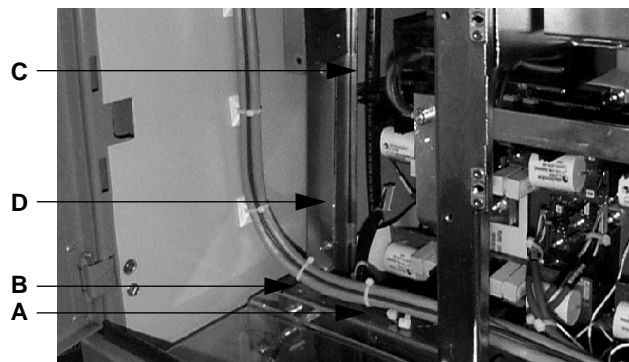

Figure 4.3.35: DB Flexible Bus Cover
7. Loosen and remove the one hex head screw that secures the left end of the stirring fan mounting angle (A) to the left-hand frame bracket (B) (see Figure 4.3.35).
8. Loosen and remove the three screws securing the DB flexible bus cover (C) to the DB flexible bus channel (D). See Figure 4.3.35. Remove the cover. It may be necessary to pull the stirring fan mounting angle out slightly to remove the cover. This may result in the cable to the left-most gate drive card being disconnected. This will be reconnected during assembly.